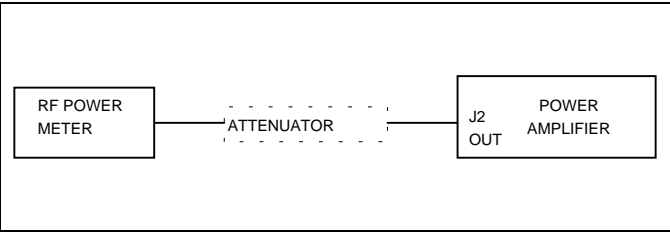

Figure 13 - Power Output Test Setup
- 1. Connect an RF Power meter (through attenuator if necessary) to the output of the PA at J2. See Figure 13.